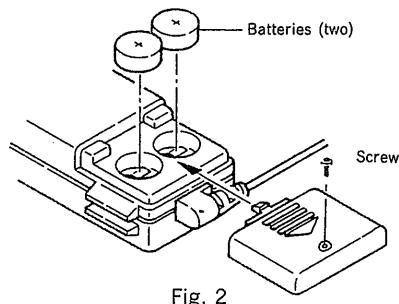

Fig. 2
Battery Replacement (See Fig. 2)
① Remove the screw and the battery cover.
② Replace the batteries as shown in Fig. 2.